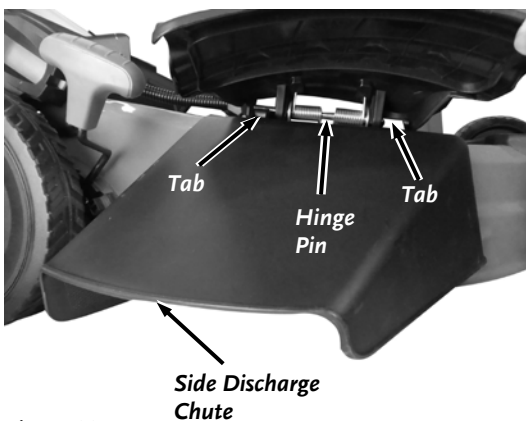

Figure 11
2. Place the Tabs of the Side Discharge Chute under the Hinge Pin (**Figure 11**).